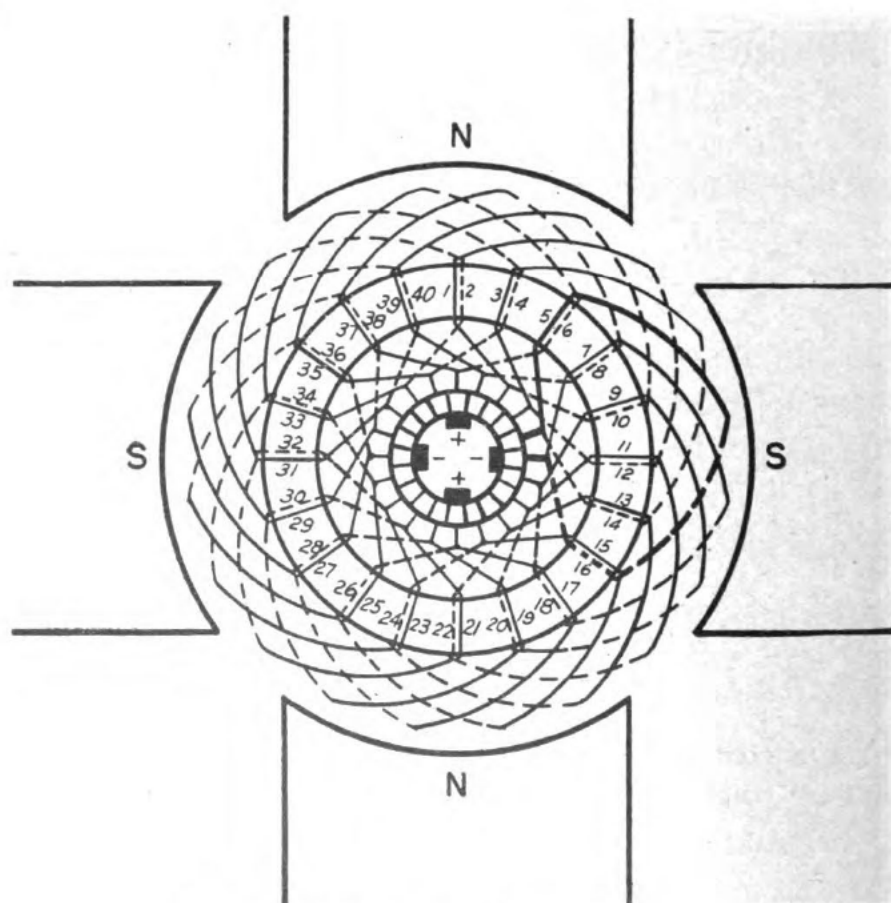
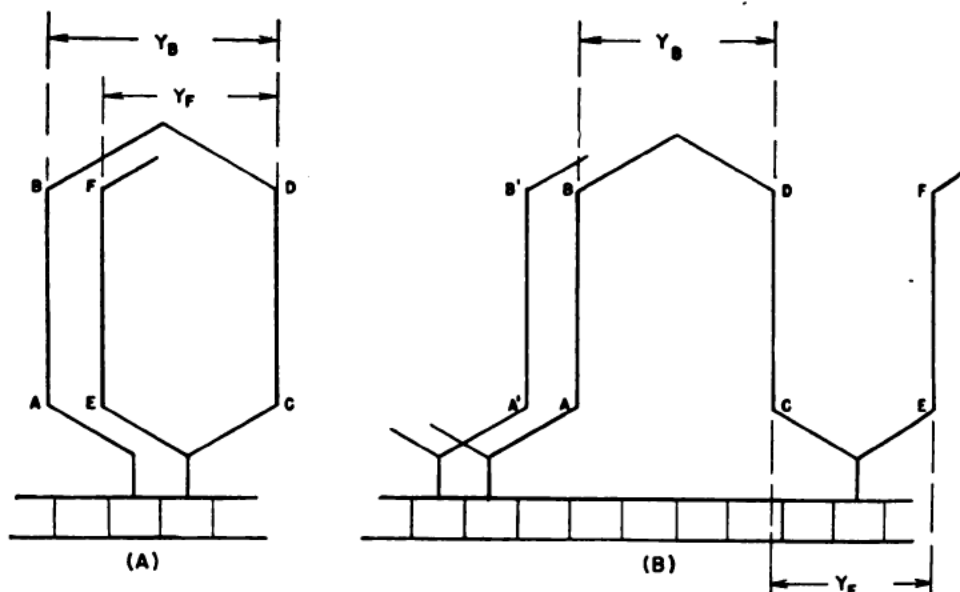

Figure 91.—4-pole, lap-wound armature.
Figure 93.—Lap and wave windings.
6. Draw the wiring diagram—(See figures 91 and 92).
In the lap-wound armature, in figures 91 and 92, you connected a coil side under one pole directly to a coil side occupying a corresponding position under the next pole. Then you connected this second coil side back to a coil side under the original pole, but in a different slot. It would not make any difference in the direction and magnitude of the induced emf in the winding if the connection, instead of returning to the original pole, advanced to the next pole.
In figure 93, you see the difference between lap and wave-wound armatures. In figure 93 (A) you have a LAP-wound armature similar to the one used in the preceding problem and shown in figures 91 and 92. In figure 93 (B) you have a WAVE-WOUND ARMATURE. The windings pass all the north and south poles